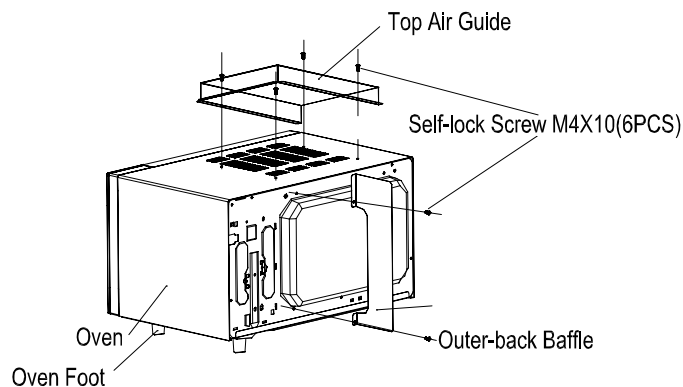
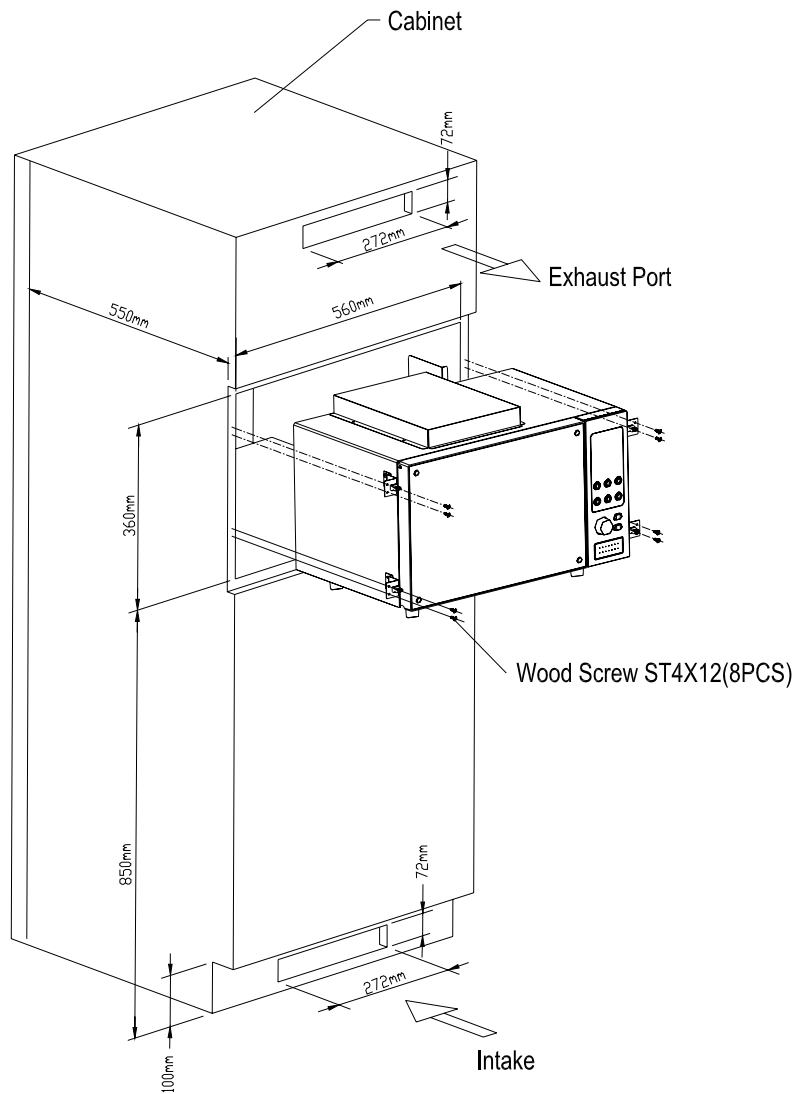

Fig.1
Fig.3
b) Net depth $\geq 550\text{mm}$, as shown in Fig.3.
② INSTALLATION:
a) Secure top air guide onto housing while outer-back baffle onto outer-back plate with self-lock screws, as shown in Fig.1.
c) Place microwave oven into cabinet, then fix it with wood screws, as shown in Fig.3.